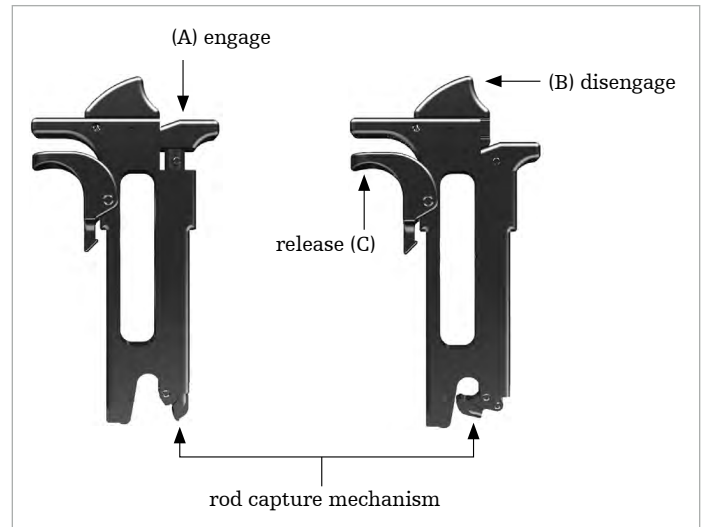

Figure 54
After inserting the Reamer Stabilizer, press the top button (A) to activate the rod capture mechanism. To disengage the rod capture mechanism, slide button (B) over as shown. To remove the Reamer Stabilizer from the Anterior Mounting Plate, pull up on lever (C) to release the side latch. **(Figure 54)**